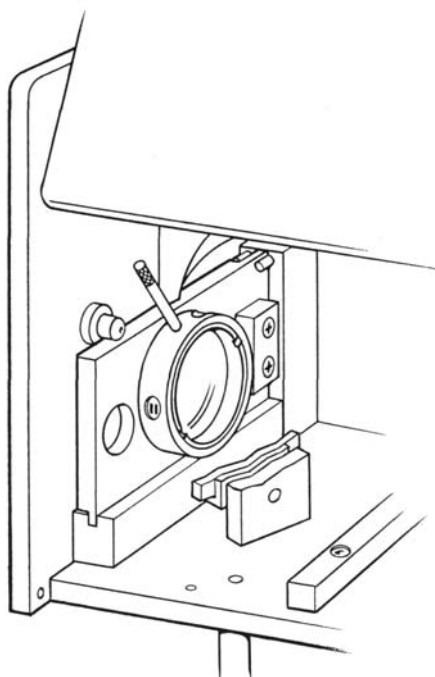

Figure 21 • Polarizer Mounted in the Seagull™
- To mount the polarizer in the Seagull™, slide it into its mount (Figure 21).